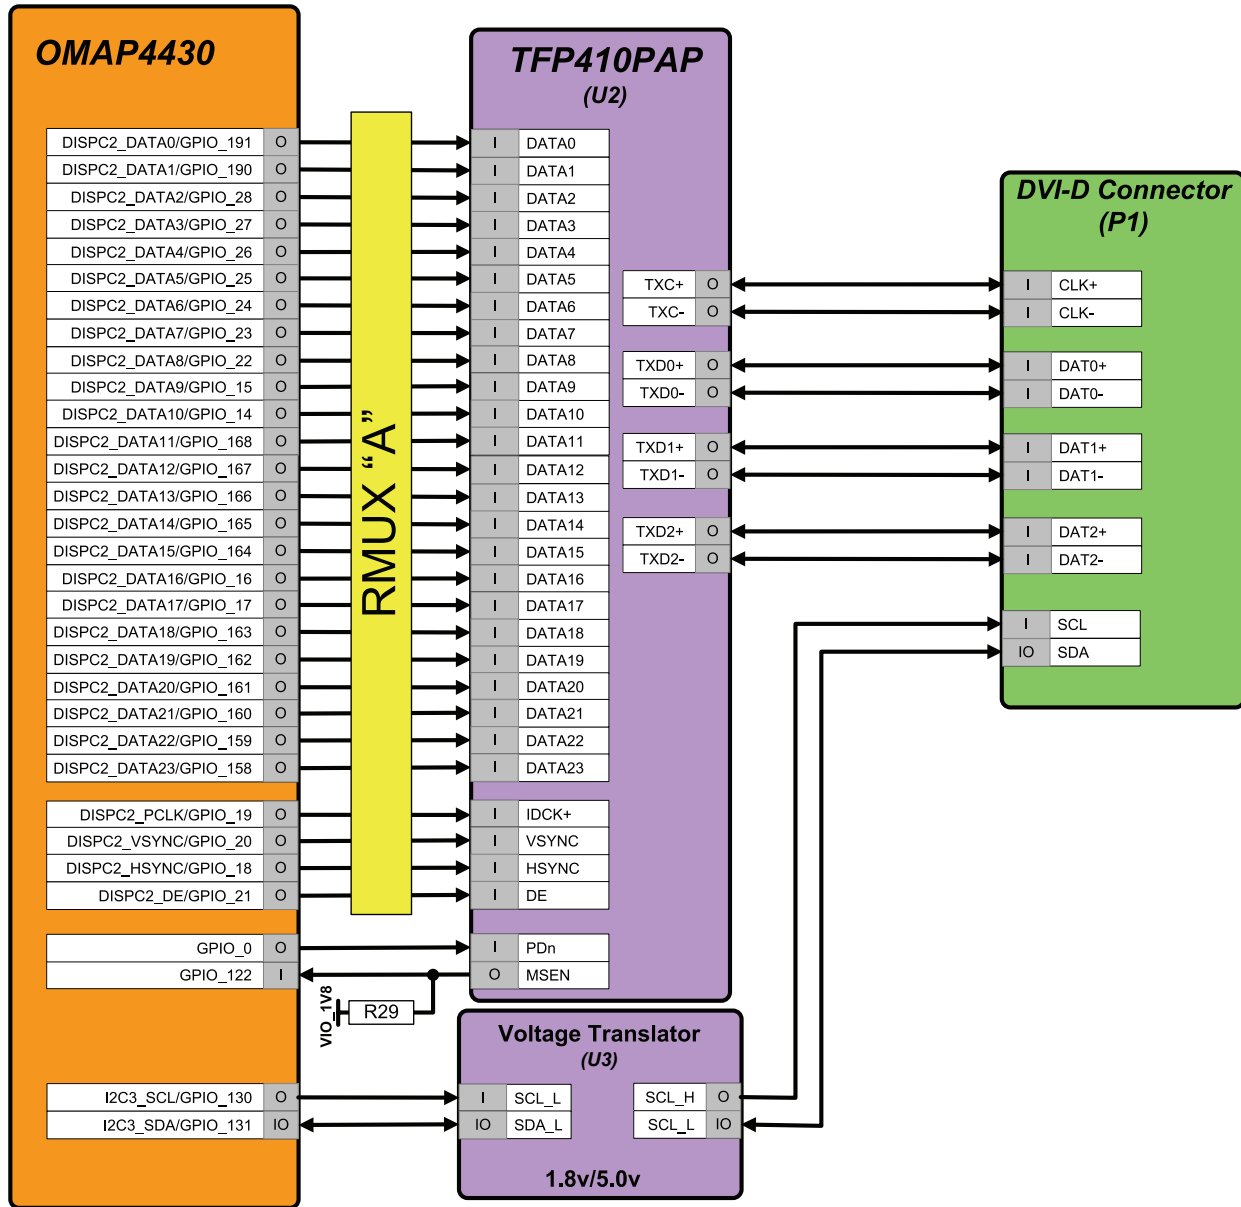
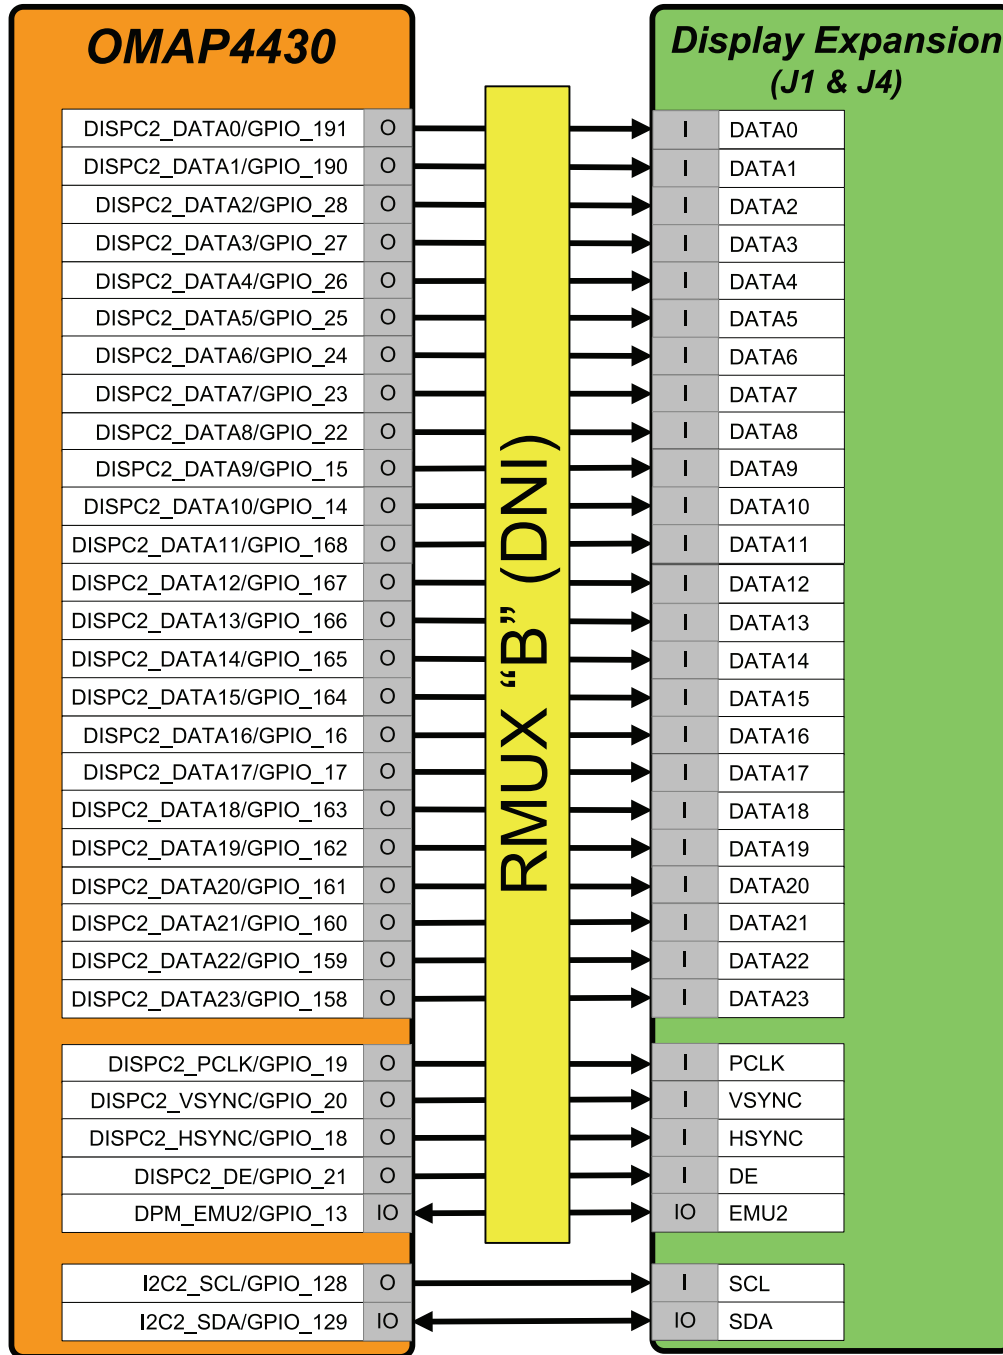
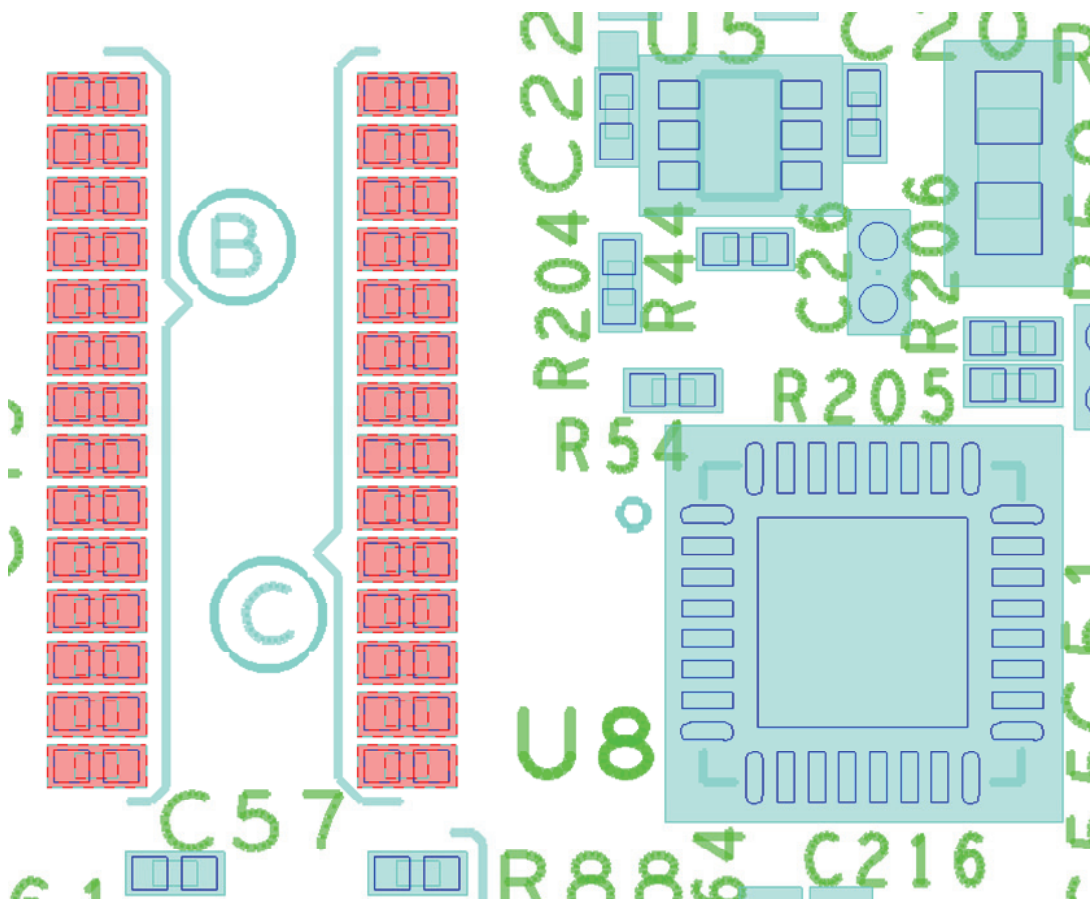
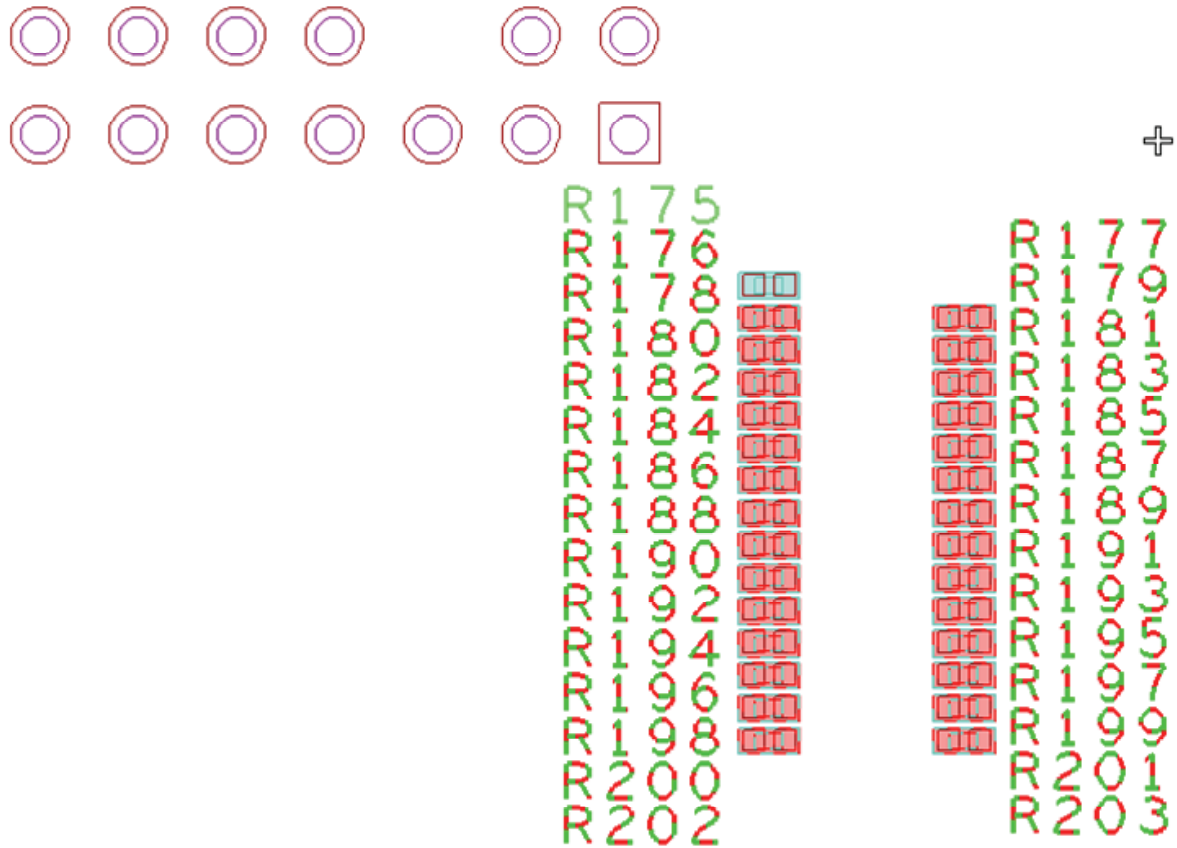

Figure 9 – Panda DVI-D Output Block Diagram
Figure 10 – Panda Display Expansion Block Diagram
Figure 11 – Panda Display RMUX “A” Resistor Locations (Top Side of PCB)
Figure 12 – Panda Display RMUX “B” Resistor Locations (Bottom Side of PCB)
As mentioned previously, the as-shipped parallel display interface configuration for the PandaBoard is with the parallel display interface signals from OMAP driven to a TFP410 DVI transmitter, whose output feeds an onboard DVI-D connector. See Figure 9 for a block diagram of this interface.
The second parallel display option for the PandaBoard is to plug an external display module into parallel display expansion connectors J1 and J4. See Figure 10 on page 33 for a diagram of this configuration. To enable this configuration, rework would have to be done to the board. The rework would consist of removing 28 resistors (RMUX “A” shown in Figure 9 on page 31) and adding 28 different resistors (RMUX “B” shown in Figure 10 on page 33). To do this, perform the following two steps:
- 1) Remove the following 28 resistors on the top side of the board as highlighted in red in Figure 11 on page 35 in the following locations: R40-R43, R45, R46, R48-R53, R64-R73, and R80-R85. These 28 resistors comprise the “RMUXA” block shown in Figure 9.
- 2) Add 0201, 33 ohm resistors on the back side of the board as highlighted in red in Figure 12 on page 36 in the following locations: R176-R203. These 28 resistors comprise the “RMUXB” block shown in Figure 10. *Note: if 33 ohm resistors are not available, then zero ohm resistors may be used, or you may simply solder across the individual resistor pads.*